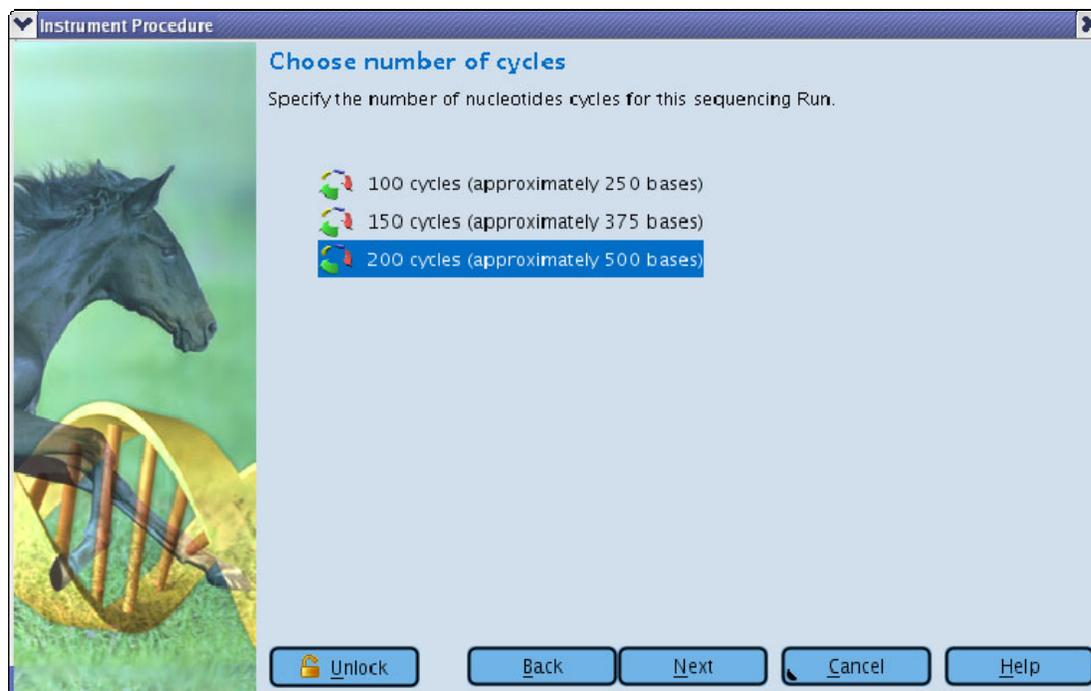

Figure 14: GS Sequencer Run Wizard – ‘Choose number of cycles’ window
6. **Choose the number of cycles** (Figure 14) – Choose the number of cycles or nucleotide flows for the sequencing Run. The choices presented match the sequencing Kit choice made in the step 4. The greater the number of cycles chosen, the greater the final read length. Using the GS FLX Titanium chemistry: